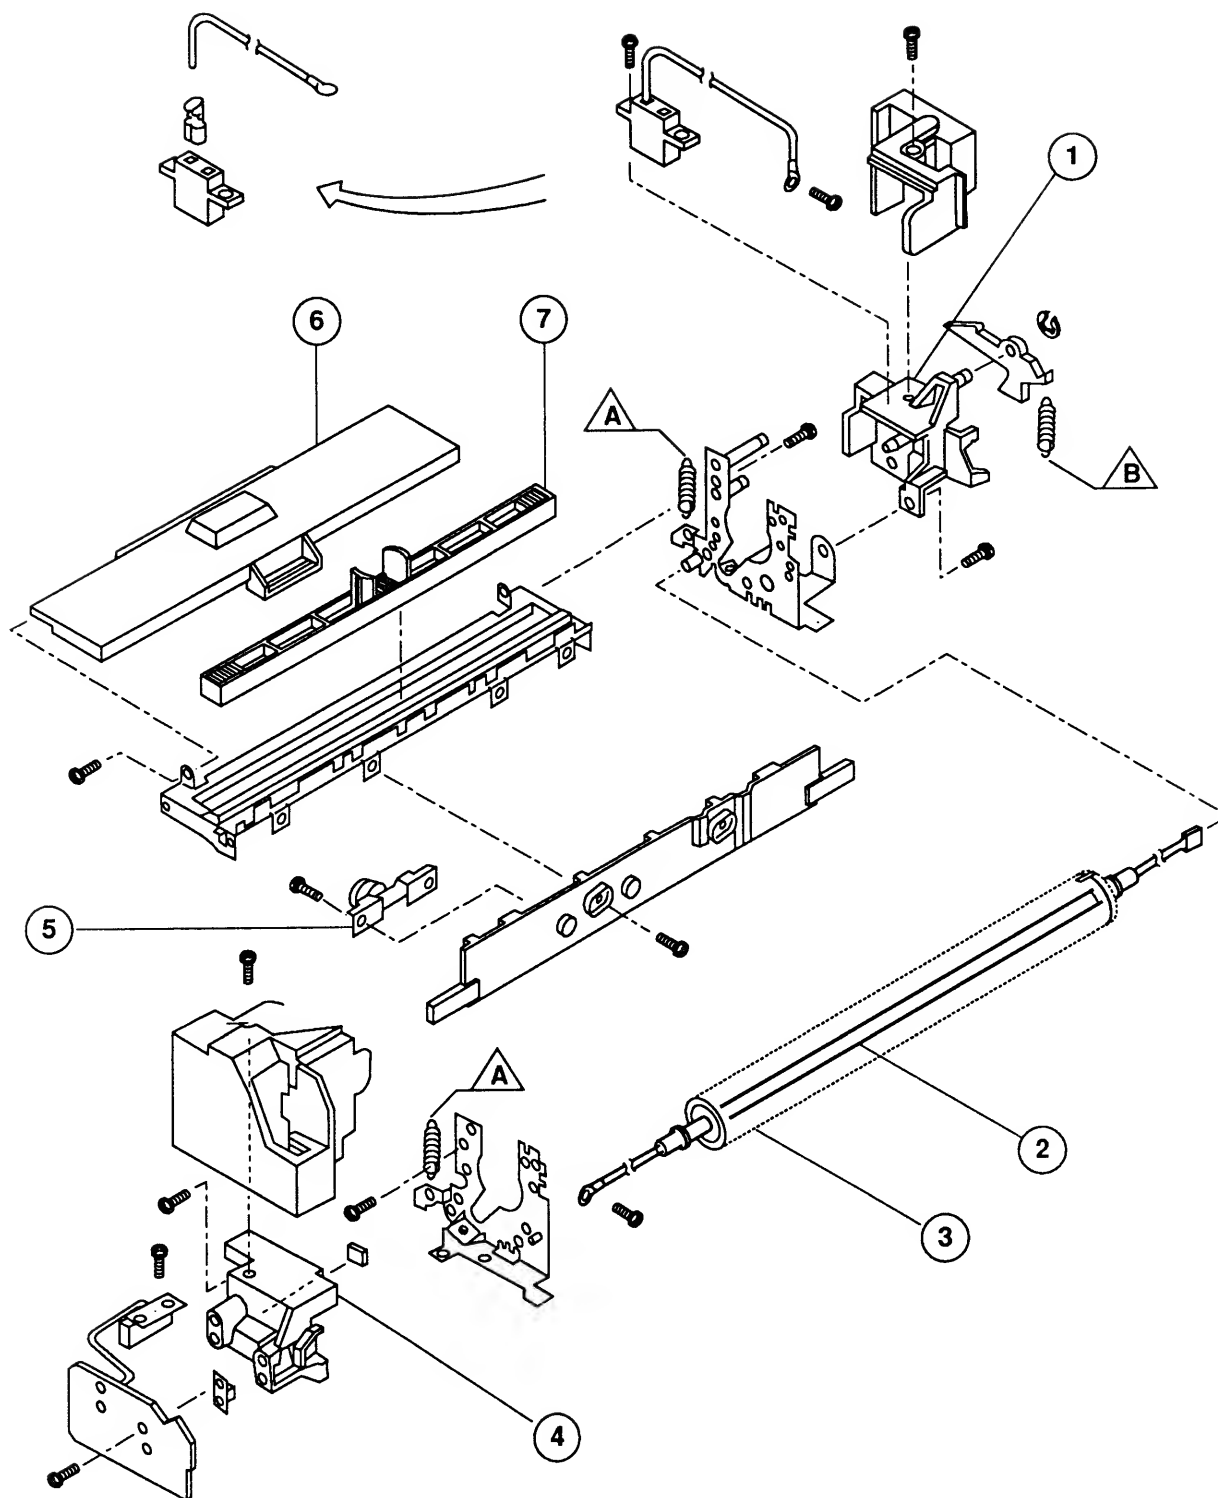

FIGURE 21
□ FUSER ASSEMBLY, EXPLODED VIEW #1 (Figure 21)